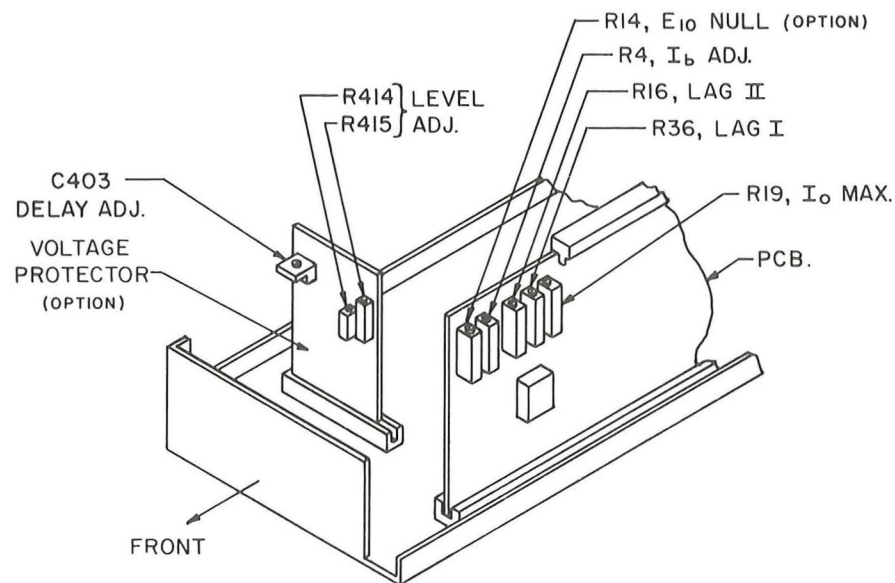

FIG. 2-1 LOCATION OF INTERNAL ADJUSTMENTS (NOT APPLICABLE TO "--HS" MODELS)
- c) INTERNAL ADJUSTMENTS AND CALIBRATIONS: Refer to FIG. 2-1 and TABLE 2-1.
- d) (Models suffixed "-VP" only) Check the "crowbar" action of the overvoltage protector by first adjusting the VOLTAGE CONTROL to about one quarter of the rated output voltage. Locate the "V_{limit}" adjustments (R414,415, refer to FIG. 2-1) and turn the "Coarse" adjustment (R415) slowly counter clockwise until the output voltage goes suddenly to zero as observed on the panel meter. Turn AC POWER SWITCH "off". Turn the coarse "V_{limit}" control (R415) fully clockwise again.